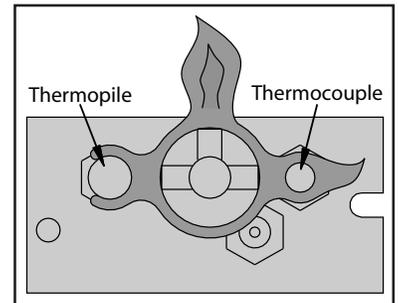

Figure 5: Pilot Flame
3. Ensure pilot is fully engulfing thermocouple and thermopile (see Figure 5).